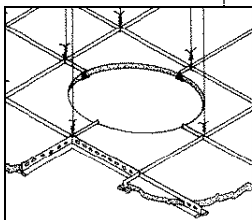

Figure 3
- **Lay-in or Suspended Ceilings:** Cut acoustical tiles and metal framework. (*figure 3*). When in place, tiles will rest on the edge of the dome and framework.